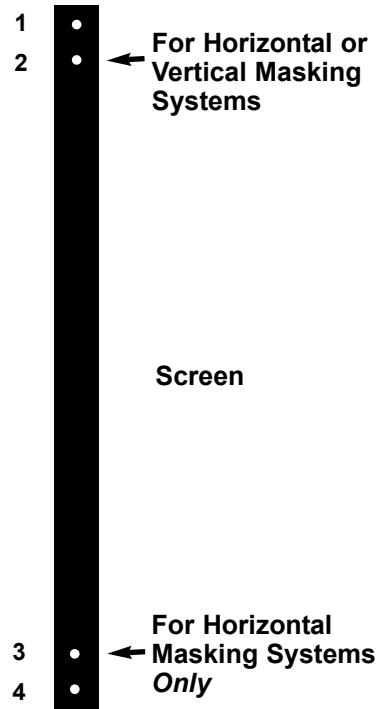

Figure 15: Limit switches; DOWN switches for masks are 2 and 3.
The limit switches are located on the head of the motor and can be accessed through openings located on the left side of the frame, as shown in Figure 15.
The UP limit switch(es) retract the batten(s) further into the frame. Adjusting them is not advised. Refer to 1 and 4 in Figure 15.
2. Locate the down limit switch(es) located on the left side of the frame. Refer to 2 and 3 in Figure 15. Use a screwdriver to turn the switch in a counterclockwise direction. If the power is on, the mask will drop incrementally as the switch is turned.
2. Locate the down limit switch(es) located on the left side of the frame. Refer to 2 and 3 in Figure 15. Use a screwdriver to turn the switch in a clockwise direction.